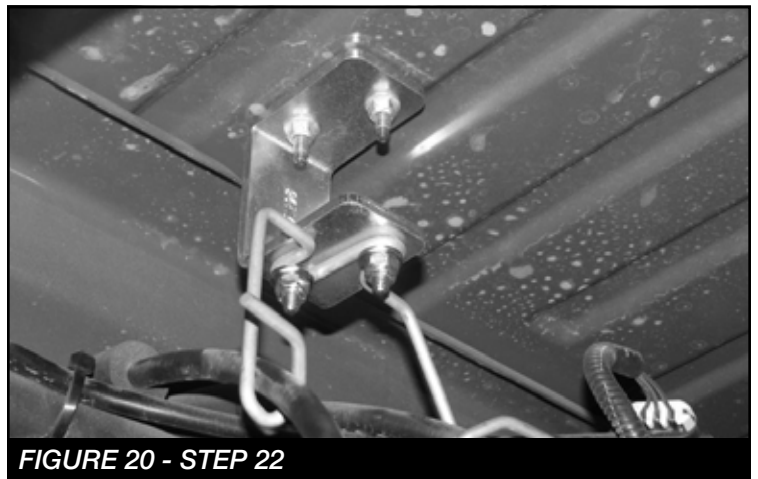

FIGURE 20 - STEP 22
22. Locate FT50298 E-Brake Bracket and supplied 1/4" hardware. Position the bracket to the factory mounting position and attach with the factory hardware. Attach the factory bracket to the new Fabtech bracket with the 1/4" hardware. Torque to 10 lbs. **SEE FIGURE 20**